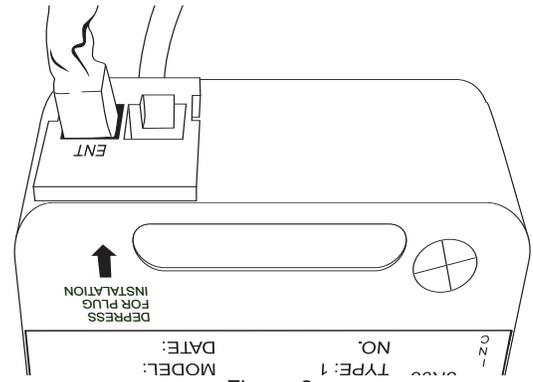

Figure 8
- 13). Carefully insert the entry cable plug into the lock at the "ENT" position, see *Figure 8*.